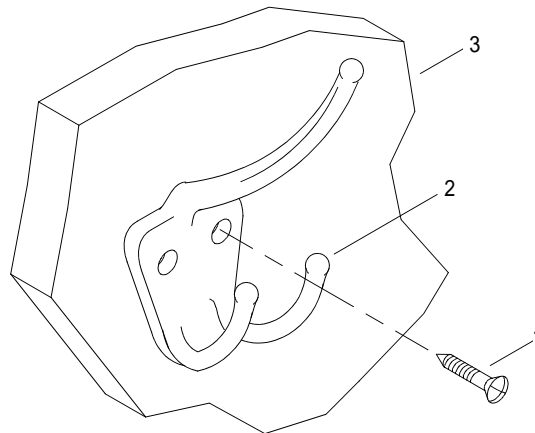

Figure 1. Coat Hanger
1. Remove screws (figure 1, item 1) securing coat hanger (2) to side of personnel shelter (3).
2. Remove coat hanger (2) from side of personnel shelter (3) and discard.
3. Position new coat hanger (2) on side of personnel shelter (3).
4. Install screws (1) to secure coat hanger (2) on side of personnel shelter (3). Tighten screws (1).